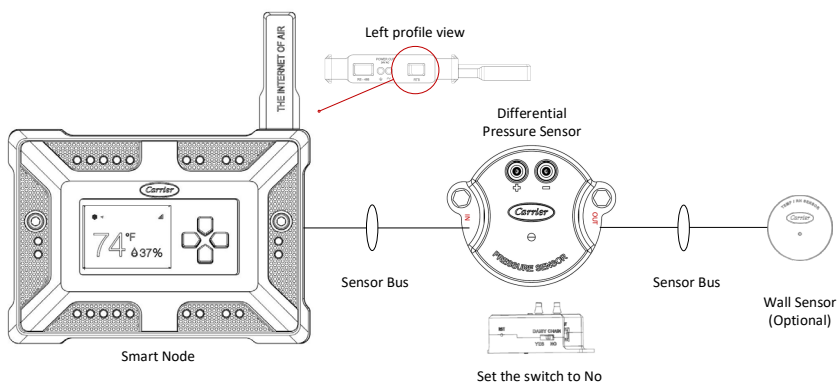

Figure 4
2. Power to the DPS is provided through the Sensor bus cable; no external power wiring is required. If an additional Wall sensor needs to be connected, connect the other Sensor bus cable to one end of the OUT port of the DPS and the other end to the RTH sensor. See Figure 4 for connections.
3. To enable Wall sensor communication, the *Daisy Chain* switch must be set to *Yes*. When there is no requirement for additional sensors to be connected to the OUT port of the DPS, the *Daisy Chain* switch must be set to *No*. See Figure 4.